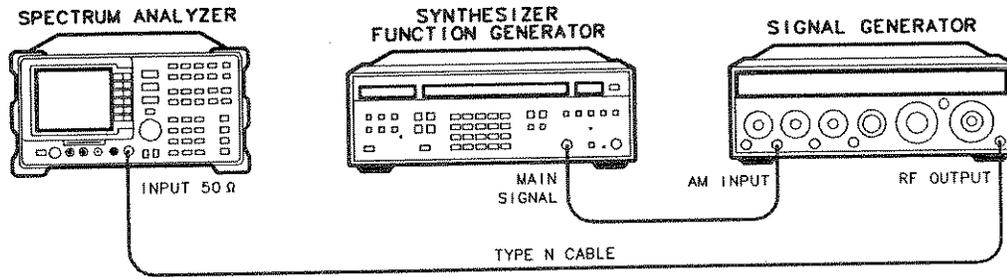

Figure 4-9. Sweep Time Accuracy Test Setup
3. Connect the equipment as shown in Figure 4-9. *Option 026:* Use the APC adapter to connect the cable to the analyzer input.